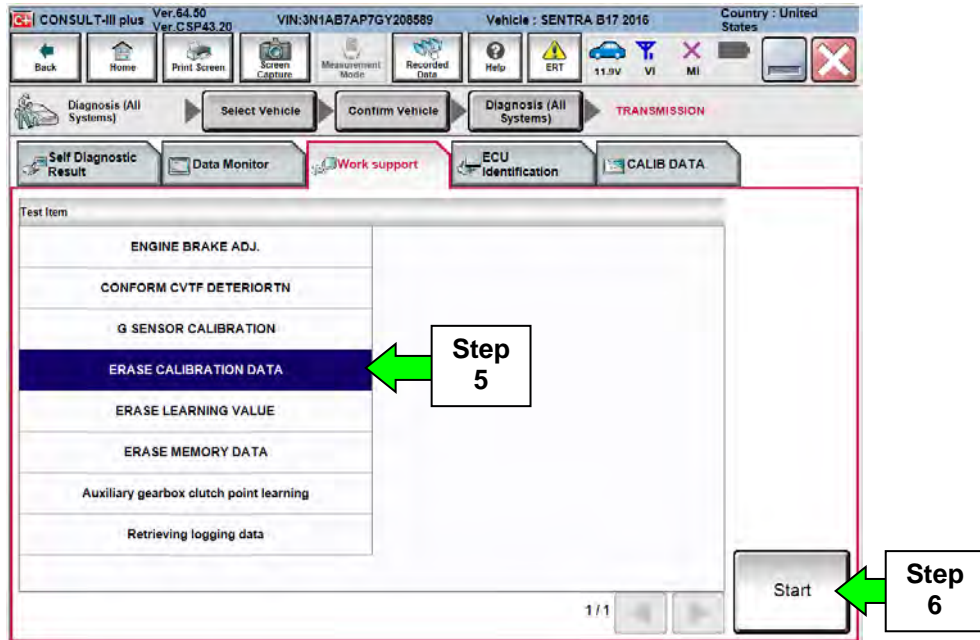

Figure 1Y
4. Navigate C-III plus to the screen shown in Figure 1Y below.